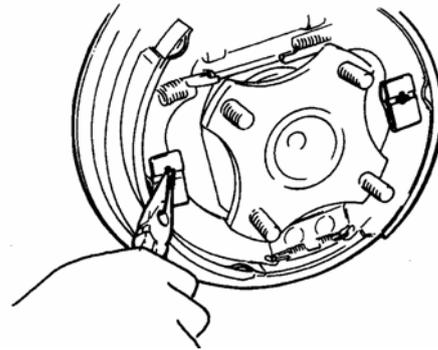

FIG.16-51
- (3) Install brake shoe by depressing spring and rotating brake shoe pin. (FIG.16-51)